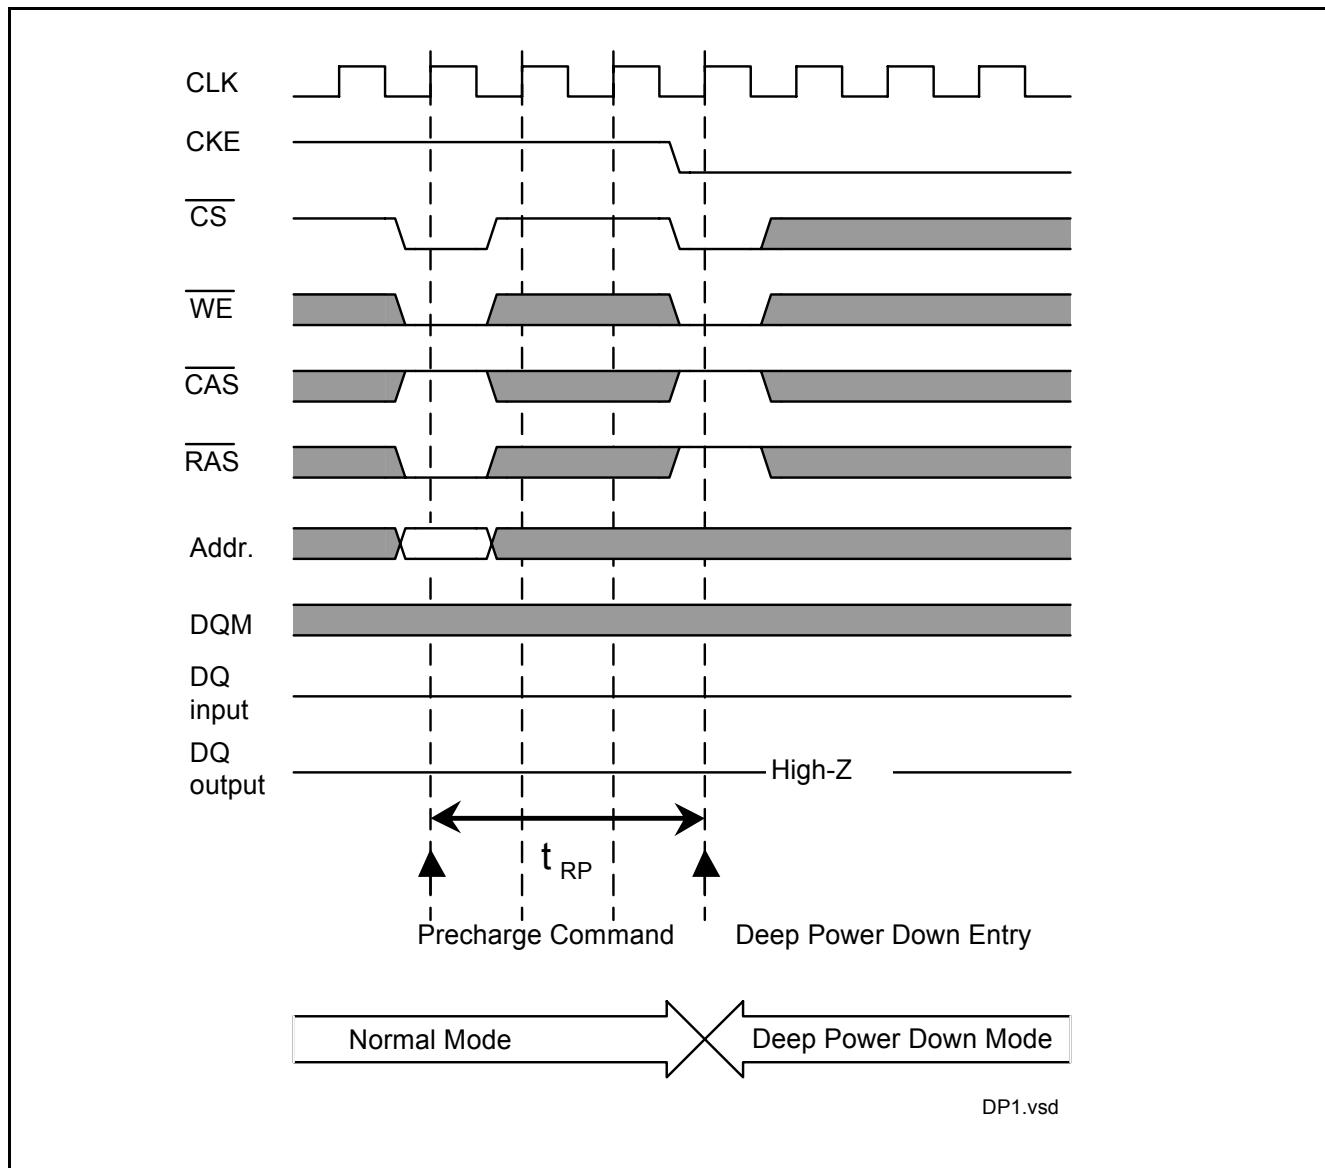

Figure 36 Deep Power Down Mode Entry
- Figure 36 Deep Power Down Mode Entry